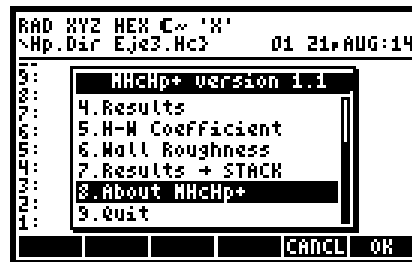

Figure 4.12a
MHcHp must be performed and it is used arrow keys to select item 8.About MHcHp+, as figure 4.12a shows.